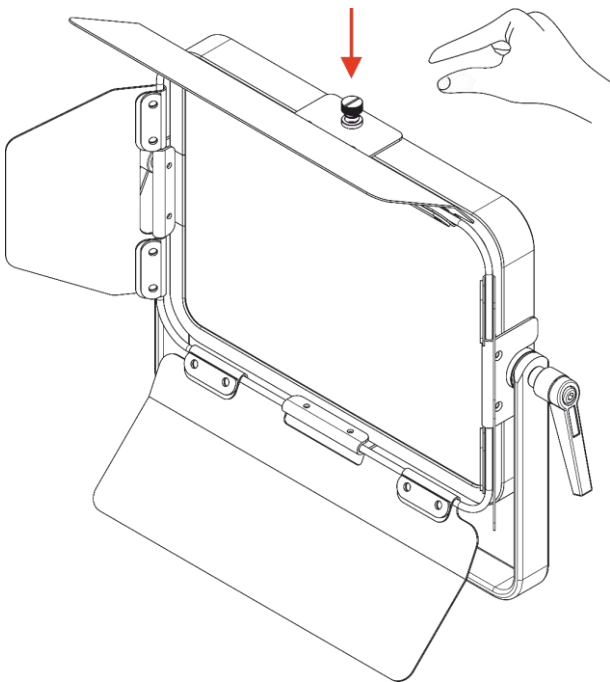

Fig. 10
- 03) Release each spring-loaded clip once it is over the designated mounting hole at the bottom and the top of the device (see Fig. 10).